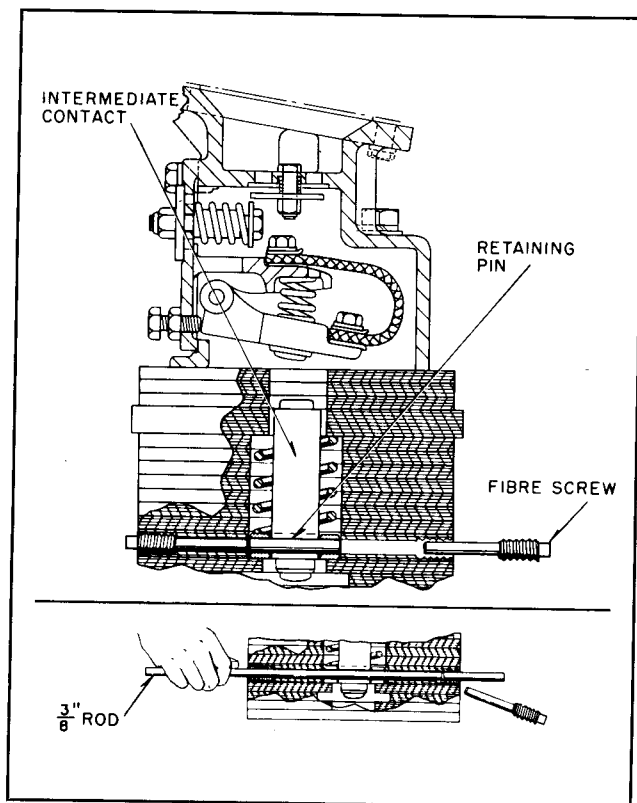

FIG. 20. Removing Retaining Pin from Intermediate Contact
Remove the long fibre screws in opposite sides of the grid. (See Fig. 20.) The intermediate contact is fastened by a loose pin to a surrounding ring which provides a spring seat and keeps the intermediate contact in its proper position. When the breaker is open, this loose pin will line up with the holes uncovered by the fibre screws, so
1. Close the breaker slowly by hand until the moving contact just touches the intermediate contact. This may be checked by "lighting out" between the moving and intermediate contact, using either a flashlight or a bell ringer. The intermediate contact may be reached by removing one of the fibre screws in the side of the grid, and inserting a piece of stiff wire. (Refer to insert, Fig. 20.) If both grids are on the same level and the moving contact cross-bar is level, the moving contact should touch both intermediate contacts simultaneously.